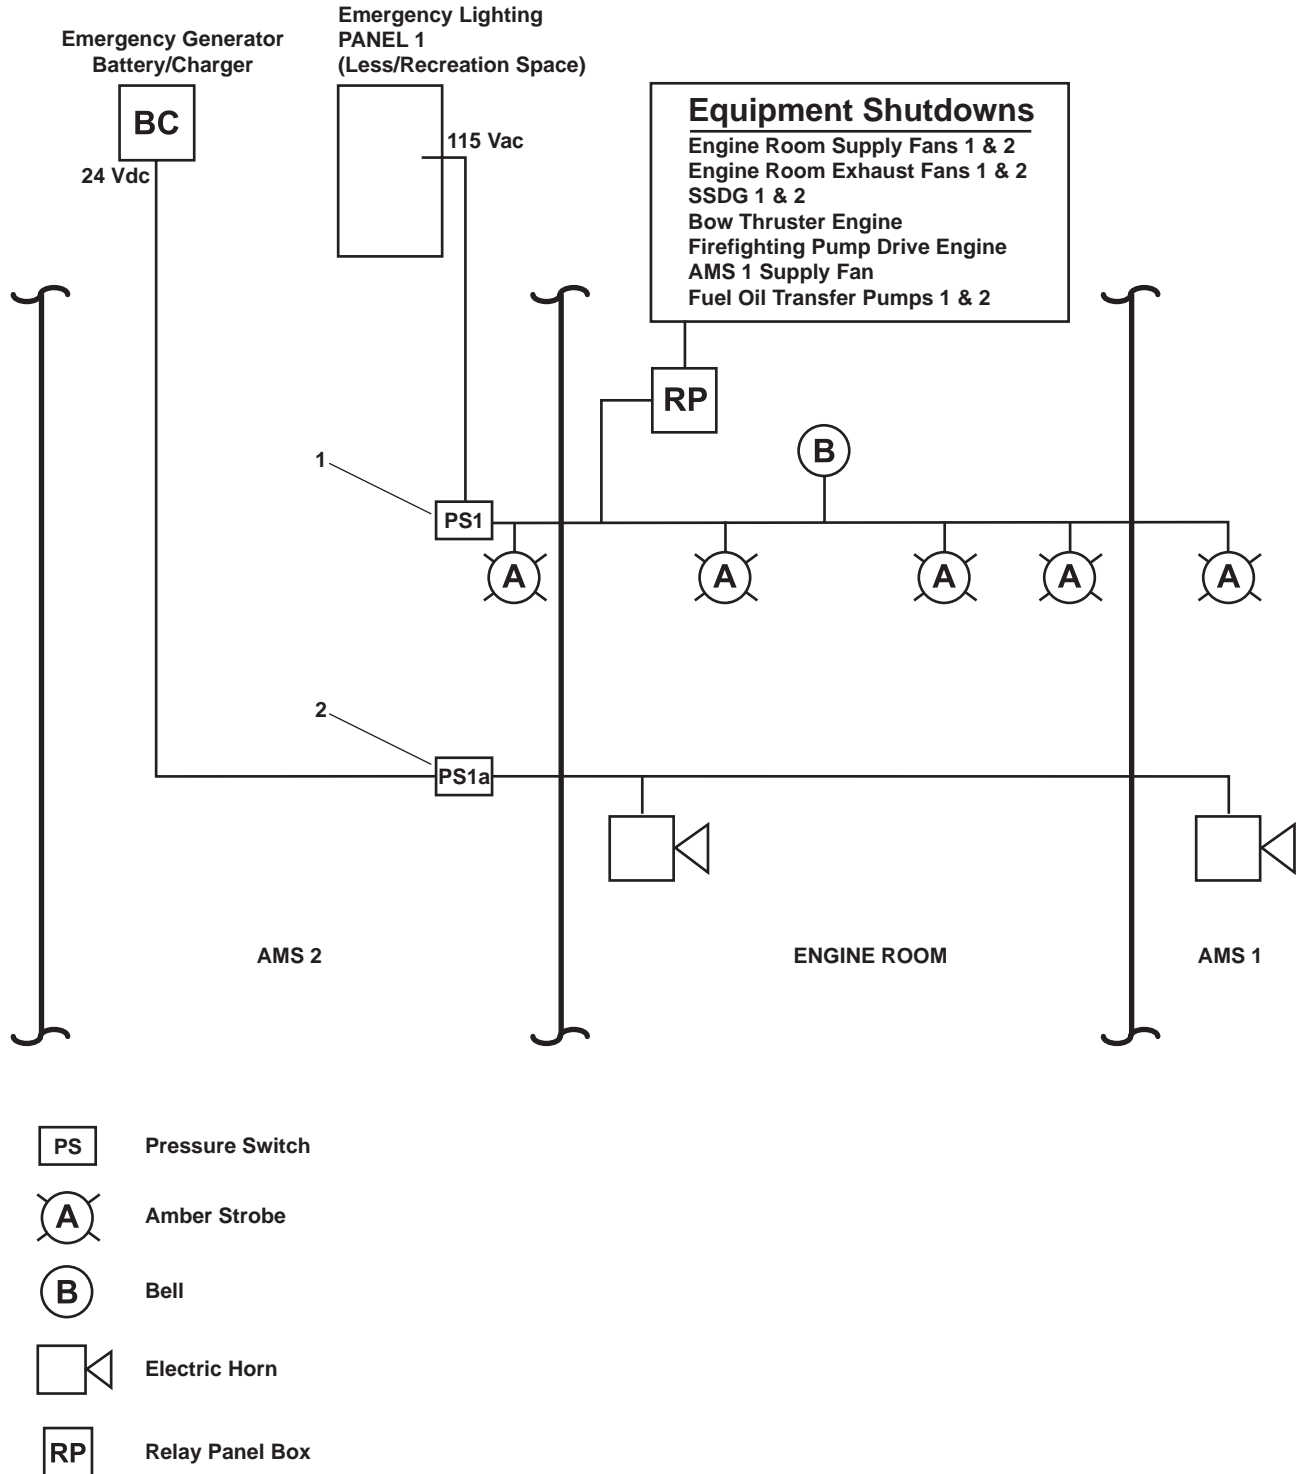

Figure 6. Fire Suppression Alarm System Schematic
The strobe lights and bell are powered by 120V emergency lighting panel No. 1 via pressure switch PS-1 (figure 6, item 1). The fire suppression alarm system has two horns. One horn is mounted in the engine room and the other in AMS 1. The horns are powered by the emergency generator battery charger circuit via pressure switch PS-1A (figure 6, item 2). As illustrated in figure 6, the use of two separate power sources provides greater assurance that personnel in the hold level will be warned if the FM-200 fire suppression system is activated.